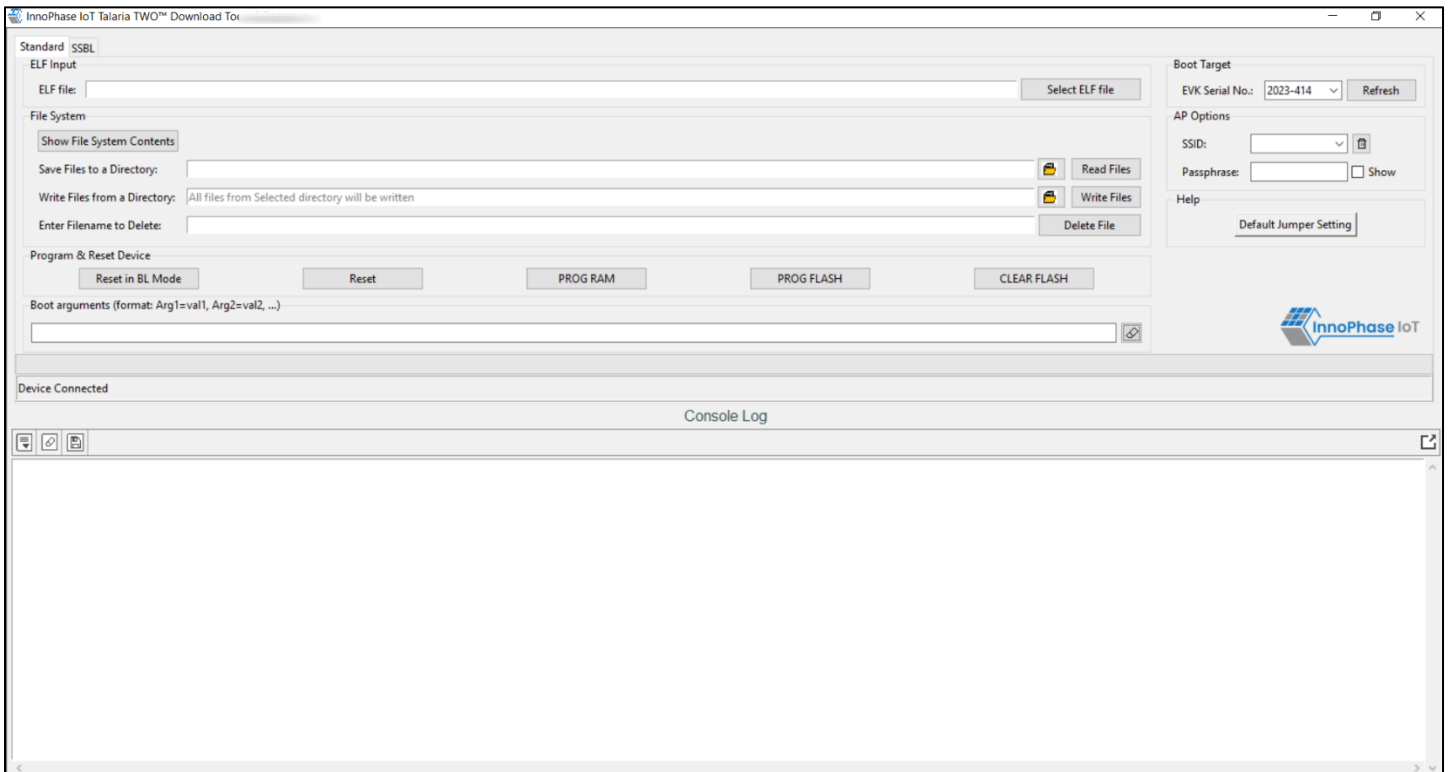
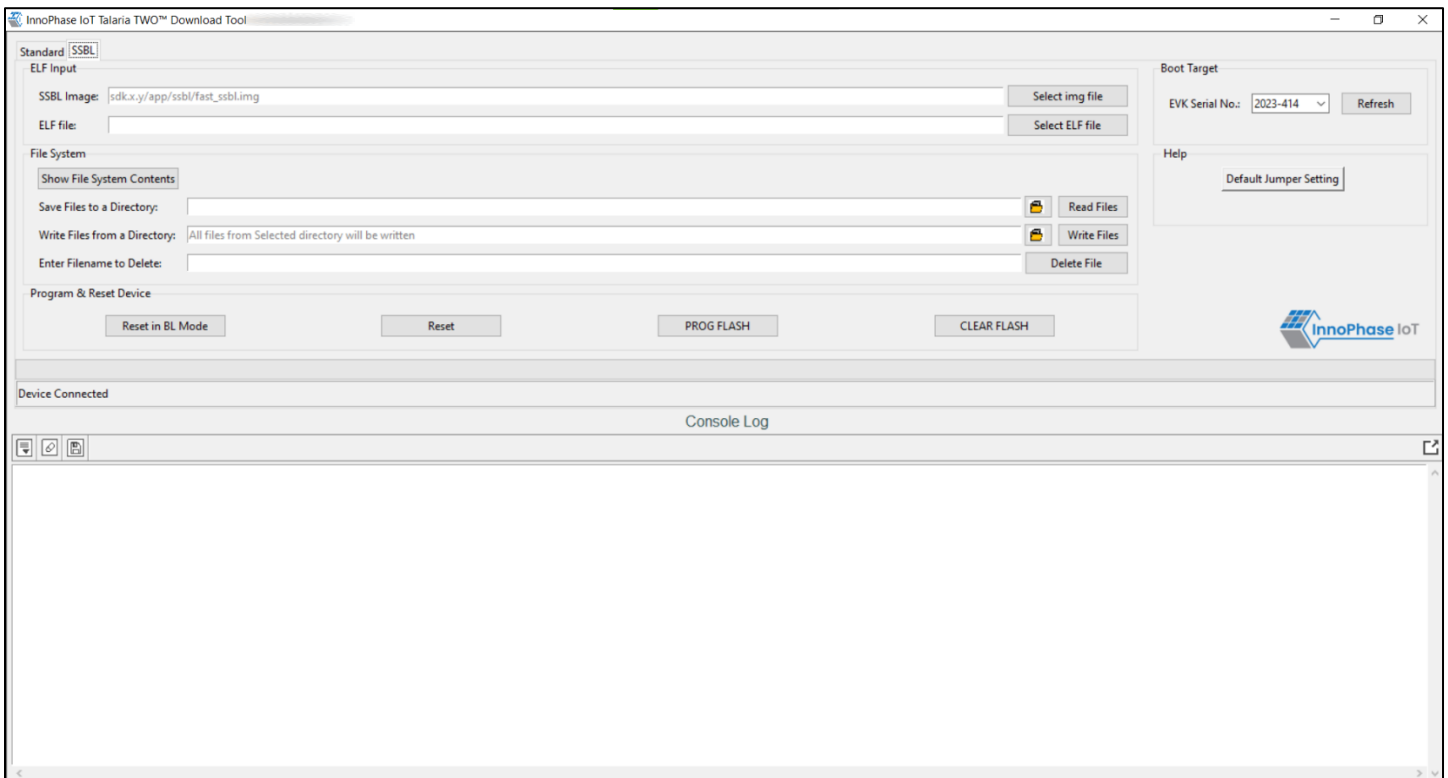

Figure 9: Download Tool GUI – Standard Programming
Figure 10: Download Tool GUI – SSBL Programming
1. GUI window on top for Standard (default) and SSBL programming, represented by two different tabs as shown in Figure 9 and Figure 10